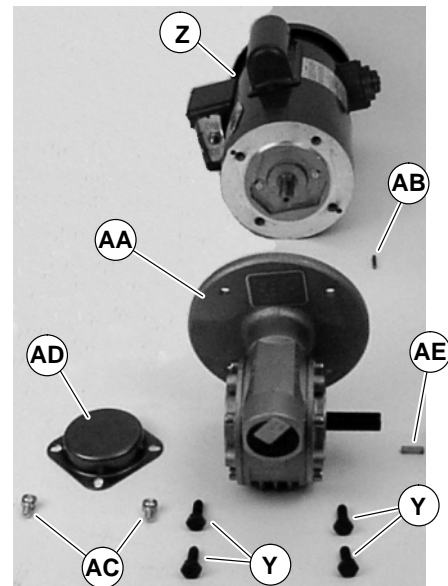

Figure 22
5. Remove four screws (Y of Figure 22). Detach motor (Z) from gear reducer (AA). Retain motor output shaft key (AB).
- With key (J of Figure 22) in keyway, slide motor (Z) and gear reducer (AA) together. Install screws (Y) and tighten.